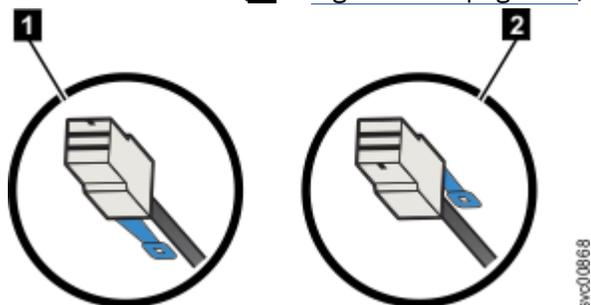

Figure 62. SAS cable connector orientation
When you insert SAS cables, make sure the connector (Figure 62 on page 104) is oriented correctly.
- For FlashSystem control enclosure node canisters and 2U expansion enclosures, the blue pull tab must be below the cable (**1** in Figure 62 on page 104).
- For 5U expansion enclosure canisters, the blue pull tab must be above the connector (**2** in Figure 62 on page 104).